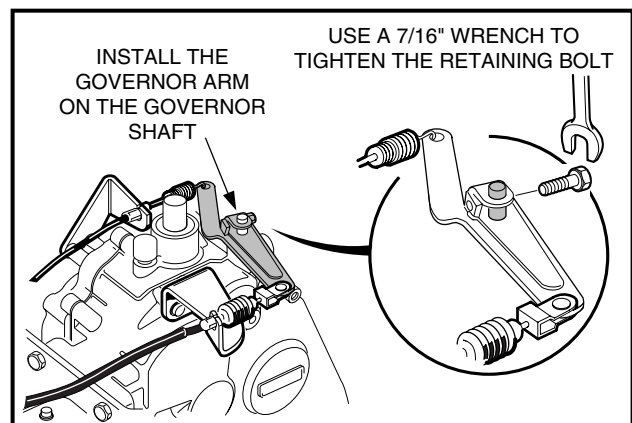

FIGURE 10-89
7. Install governor arm on governor shaft (**Figure 10-89**). Use a 7/16" wrench to tighten the retaining bolt.